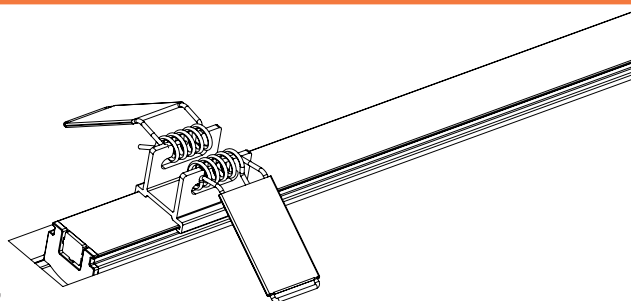

Figure 7
3. Prepare the Installation Medium (Figure 7)